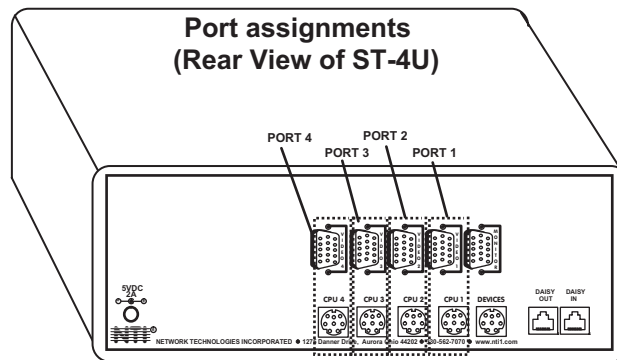

Figure 17- Video and Device connections identified with port numbers
**NOTE:** The "port" mentioned in the Command Functions above refers to the combination of the video (VIDEO x) and device (CPU x) connections of like numbers that a CPU is connected to (i.e. the CPU that is connected to VIDEO 1 and CPU 1 will be identified as PORT 1 or P01). See Fig. 17.
- A connection to the CPUs from the keyboard would be achieved by typing the appropriate port number. (See Fig. 17 above.)
- When cascading, if not all of the ports are used on each slave attached to your system, THE PORT NUMBER(S) ASSOCIATED WITH THE UNUSED PORT(S) WILL NOT BE ACCESSIBLE when trying to control the switches connected to the system. (I.e. if ports 7 and 8 are not used on the first slave and an attempt is made to connect to ports 7 or 8 while in Command Mode, the NODEMUX will ignore the attempt.)